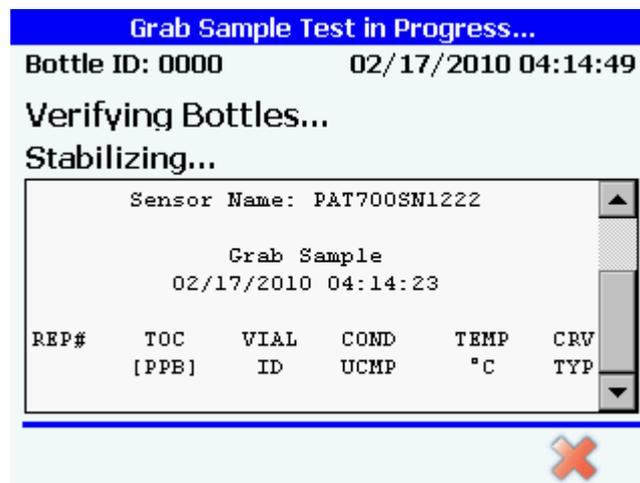

Figure 6-22 Grab sample test in progress dialog box
- **Run now button** takes you to the run grab sample dialog box. See Figure 6-22. All changes made in this dialog box are retained.